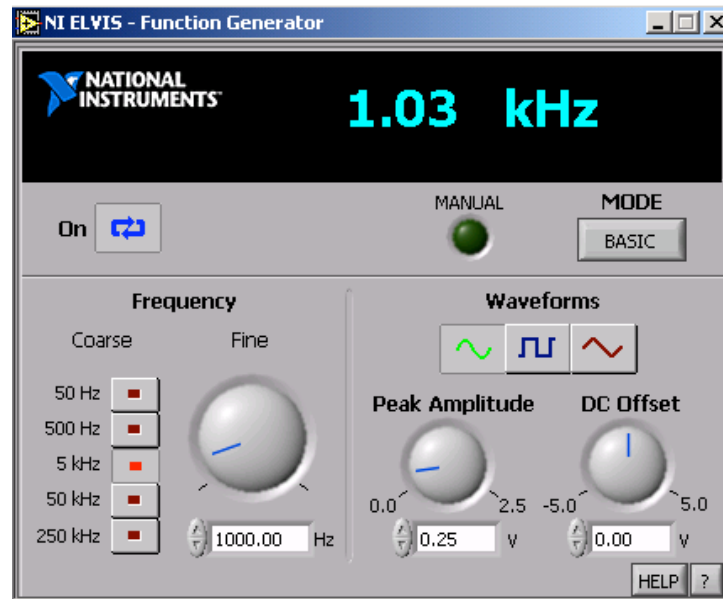

Figure 5. Funuction Generator
3. Then open **Function Generator**. Select sine wave, and set frequency to 1 kHz, Peak Amplitude to 0.25V. And click **On** on the **Function Generator** panel, as shown in figure 5.